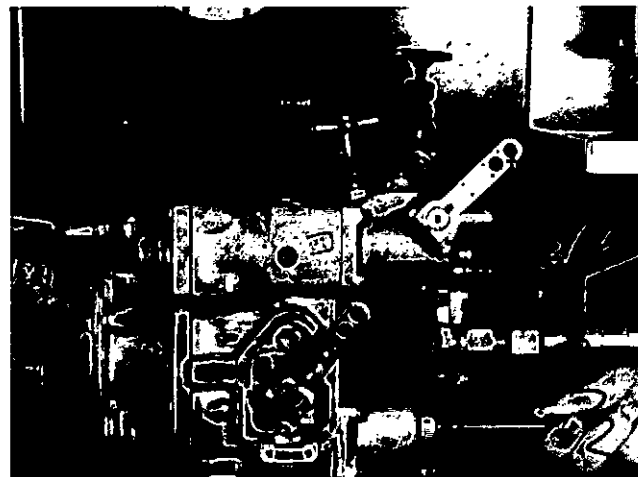

Fig. 10-32, (F5340). Set the Idle speed with ST-984.
4. Check the pressure on the pressure (rail) gauge for the fuel manifold. It must be the same as the calibration data table. If the pressure is low, turn the idle adjustment in with ST-984 or 3375981 Spring Pack Adjusting Tool. This screw is inside the governor spring housing. To lower the pressure, turn the screw out. This is 37 psi @ 500 rpm or 190 cc @ 630 rpm on pump code 8902, Fig. 10-32.